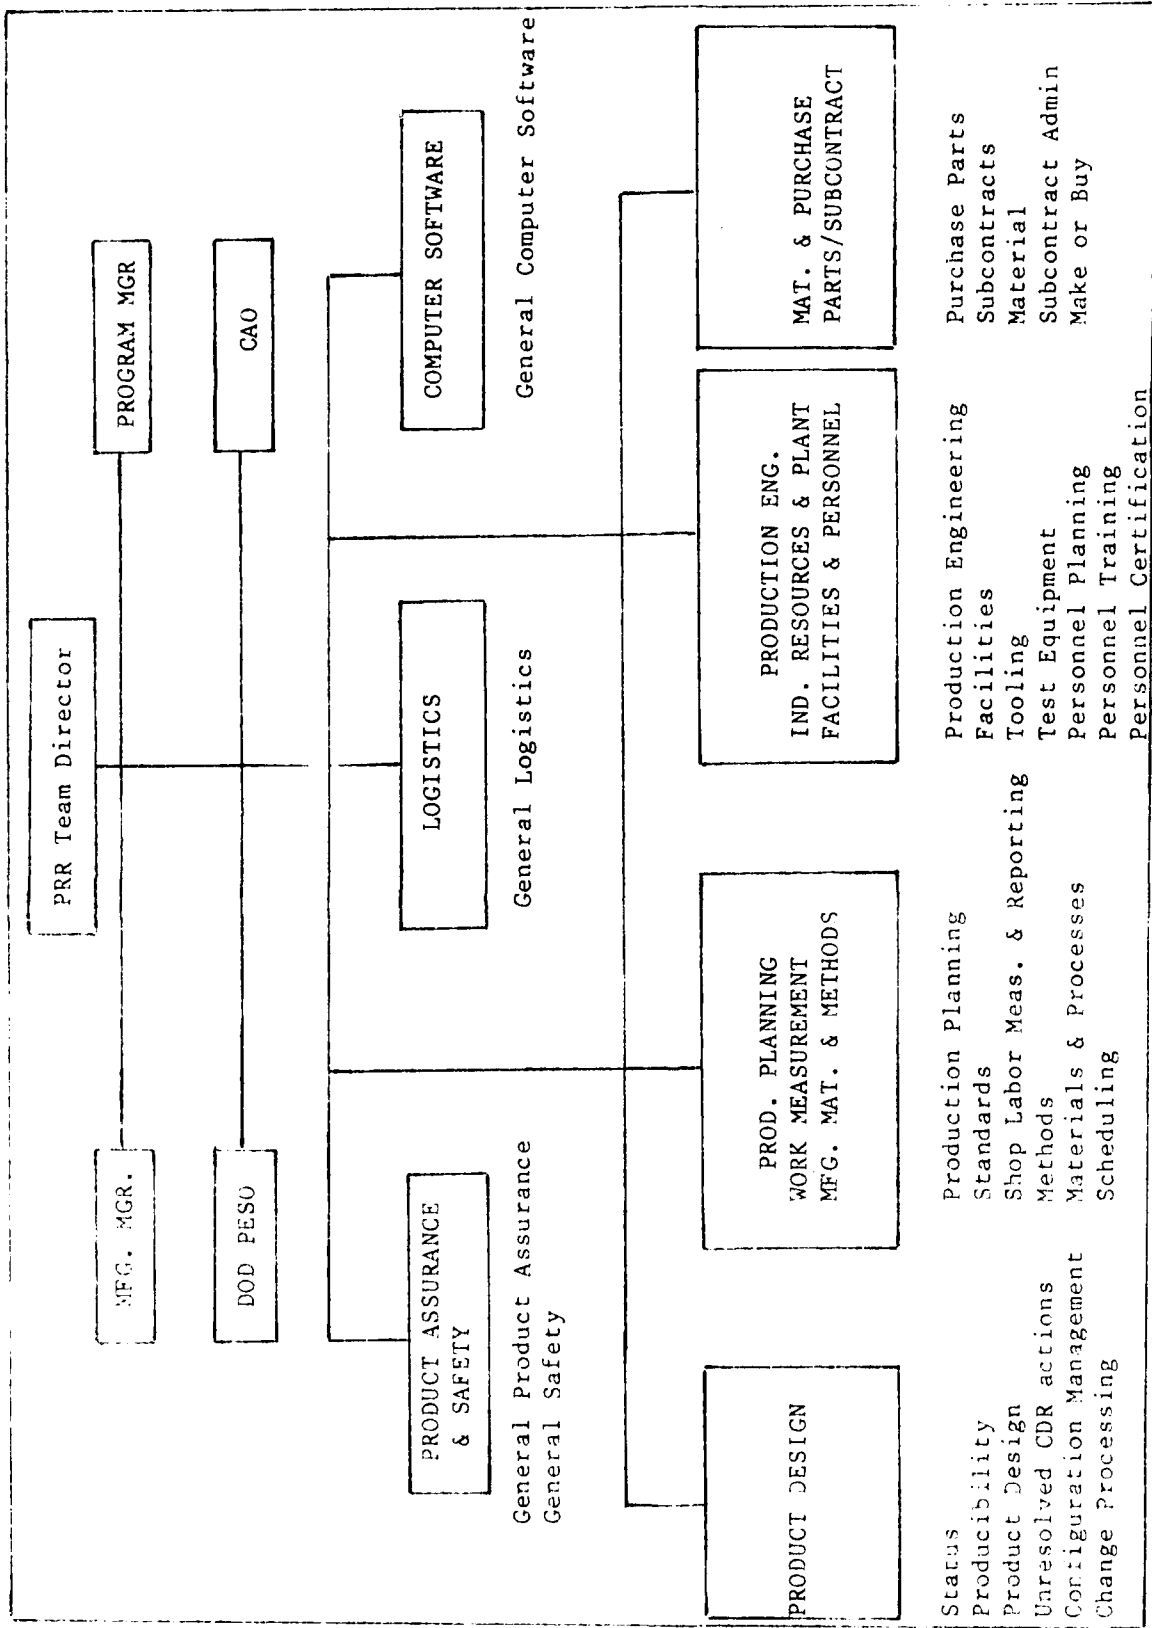

Figure 1. Sample PRR Team Organization
- Identify the various panels (See Figure 1)